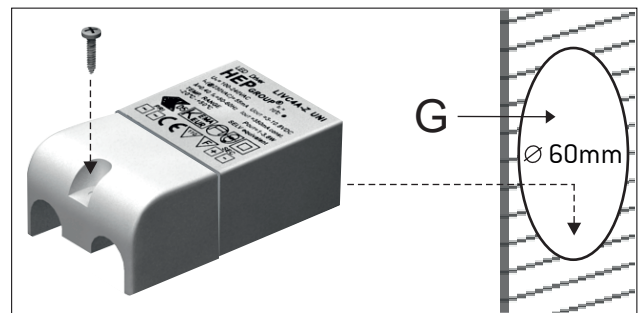

Figure 3
- 3 - Attach again the cover to the driver. Ensure that the hole in the wall (G) measures a minimum of $\varnothing 60\text{mm}$ and leave the driver inside the hole. Figure 3.